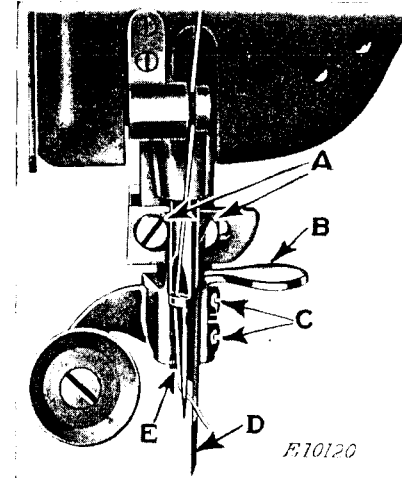
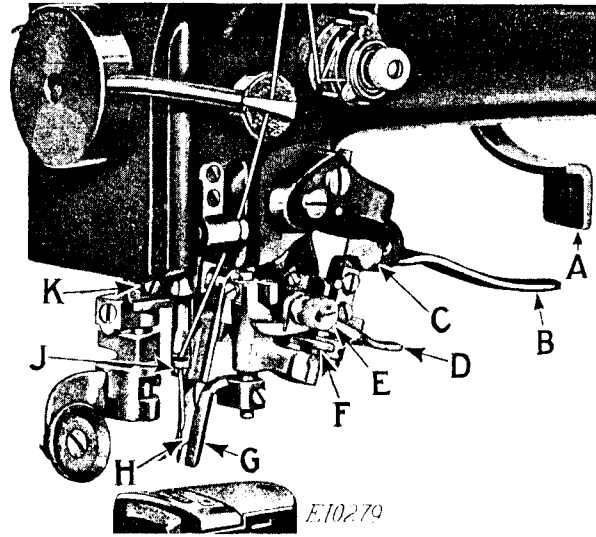
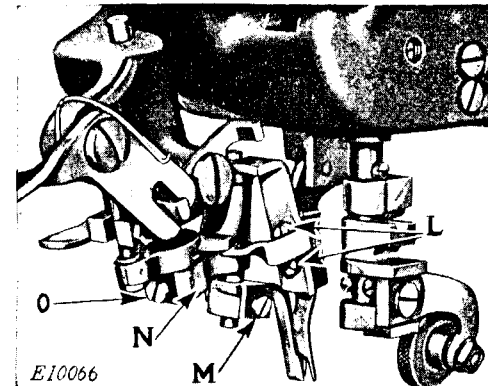

Fig. 23. Adjustments on Trimmer of Machine 136w102
Fig. 25. Adjustments on Trimmer and Edge Guide of Machine 136w103
Fig. 26. Back View of Trimmer and Edge Guide on Machine 136w103, Showing Adjustments
The knife (D, Fig. 23) should be set so that its cutting edge presses against the cutting edge of the throat plate to ensure making a sheer cut.
The sidewise adjustment of the knife is made by loosening the two screws (A, Fig. 23) and moving the knife holder to the right or left, as may be required. The knife can also be slightly adjusted sidewise by loosening or tightening the screw (E, Fig. 23) at the lower end of the knife holder.
To adjust the knife to the correct height, loosen the two screws (C, Fig. 23) and move the knife up or down on the knife holder, after which the two screws (C) should be securely tightened.
To disengage the knife, press the lever (A, Fig. 25) to the left. To re-engage the knife, press down on the handle (B, Fig. 23).
The knife (H, Fig. 25) descends obliquely and must be set so that the cutting edge will press against and pass just below the cutting edge of the throat plate to ensure making a shear cut.
The sidewise adjustment of the knife is made by loosening the two screws at (K, Fig. 25) and moving the knife holder to the right or left, as may be required. The knife can also be slightly adjusted sidewise by loosening or tightening the screw (J, Fig. 25) at the lower end of the knife holder.
To adjust the knife to the correct height, loosen the two screws (L, Fig. 26) and move the knife up or down on the knife holder, after which the two screws (L) should be securely tightened.
To disengage the knife, press the lever (A, Fig. 25) to the left. To re-engage the knife, press down on the handle (B, Fig. 25).
The purpose of the edge guide finger (G, Fig. 25) is to keep the edge of the shoe upper out of range of the knife (H, Fig. 25), thus preventing the knife from cutting the edge of the upper while the stitching and trimming is in progress. When in proper adjustment, the edge guide finger should be slightly to the left of the knife (H). The sidewise adjustment of the edge guide finger is made by loosening the screw (M, Fig. 26) at the back of the guide finger holder and moving the guide finger to the right or left, as may be required, after which securely tighten the screw (M).
The back edge of the guide finger should stand as close as possible to the knife without touching it. This adjustment is made by loosening the screw (O, Fig. 26) and moving the guide bracket (N, Fig. 26) forward or backward, as required, after which tighten the screw (O).
The guide finger should be adjusted to a height that will permit the facing or lining to pass freely under it to the knife while protecting the edge of the upper from injury. This adjustment is made by turning the knurled eccentric (E, Fig. 25) over to the right to raise the guide finger or over to the left to lower it. If the guide finger should run under or catch the lining, the guide finger holder should be slightly raised. To hold the guide finger out of action, hang up the guide finger bar by means of the latch (C, Fig. 25).
When crossing heel seams, it is sometimes desirable to slightly raise the edge guide finger (G, Fig. 25). To do this, press the lever (D, Fig. 25) downwardly and hold it in this position until the seam is crossed.
When it is desired to use the edge guide (G, Fig. 25) with the knife out of action, move the lever (F, Fig. 25) to the left. When it is desired to automatically raise the edge guide finger with the knife, move the lever (F) to the right when the knife is down.